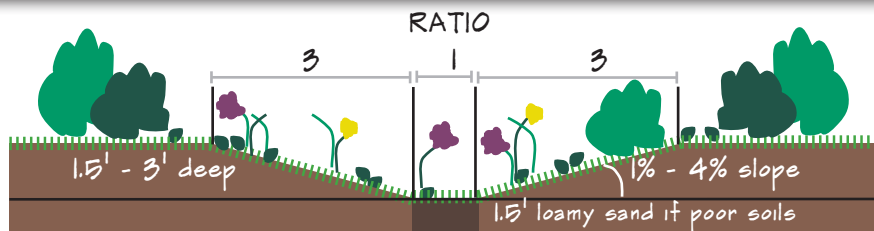

Figure 1. Profile of vegetated swale.
STEP 1: Dig out the shape of the swale to match your design. The deepest part of the swale in the center should be approximately 3' deep. The width of the swale will depend on how much space you have on your site. A swale can be any size or length, but most are shaped like a trapezoid with the sides being three times wider than the width of the base. The slope of the sides should be between 1% and 4% (figure 1).